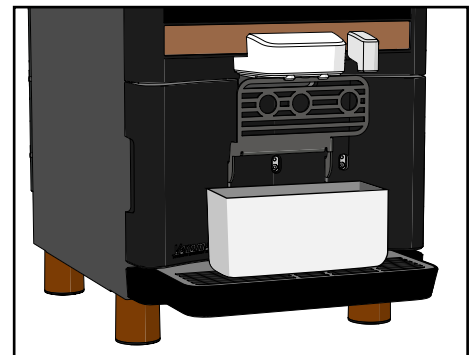

Figure 35.
6. Place a container underneath the outlet (see Figure 35).